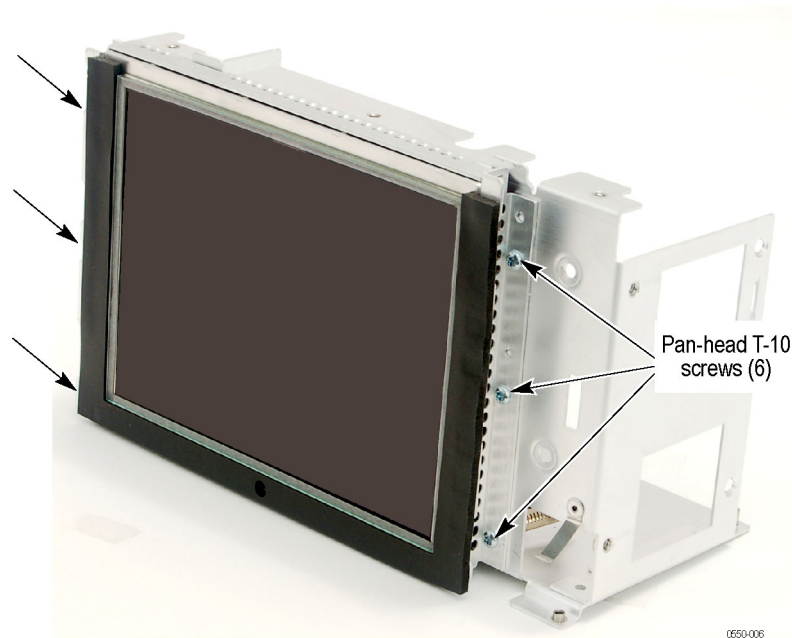

Figure 9: Screws that attach LCD module to main chassis
1. Remove the 6 pan-head 40 X 0.187 T-10 screws that attach the LCD module to the main chassis. (Push aside the Poron foam gasket to reach the screws.) (See Figure 9.)